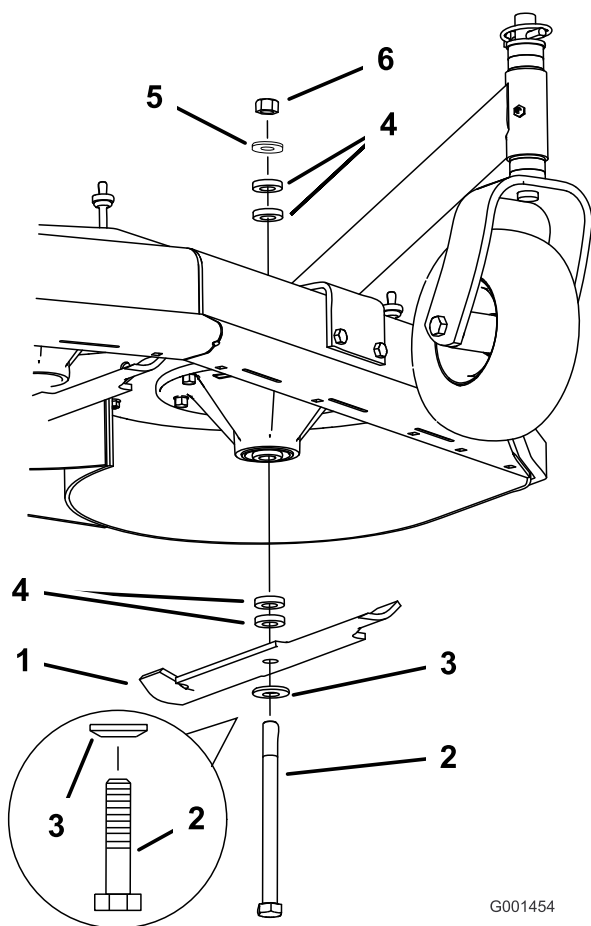

Figure 15
4. Hold the blade bolt and remove the nut. Slide the bolt down through the spindle, and change the spacers as needed (Figure 15).
5. Install the bolt, curved washer, blade, add extra spacers, and secure them with a thin washer and a nut (Figure 15).